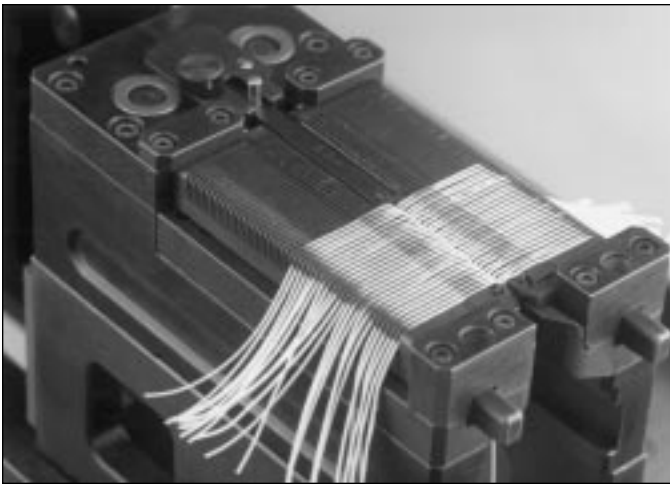

Figure 8. Wires in "U" slot cover
- Carefully untwist the first set of conductors. Push the first conductor to the back of the slot. Gently pull up and to the left to align wire with the groove in rear left of the cover and then down into the corresponding wire slot. Stretch it slightly and lay it into the grooved wire holding slot. Be sure the wire is properly seated into the "U" shaped cover (Fig. 8) by gently pushing it into the slot.